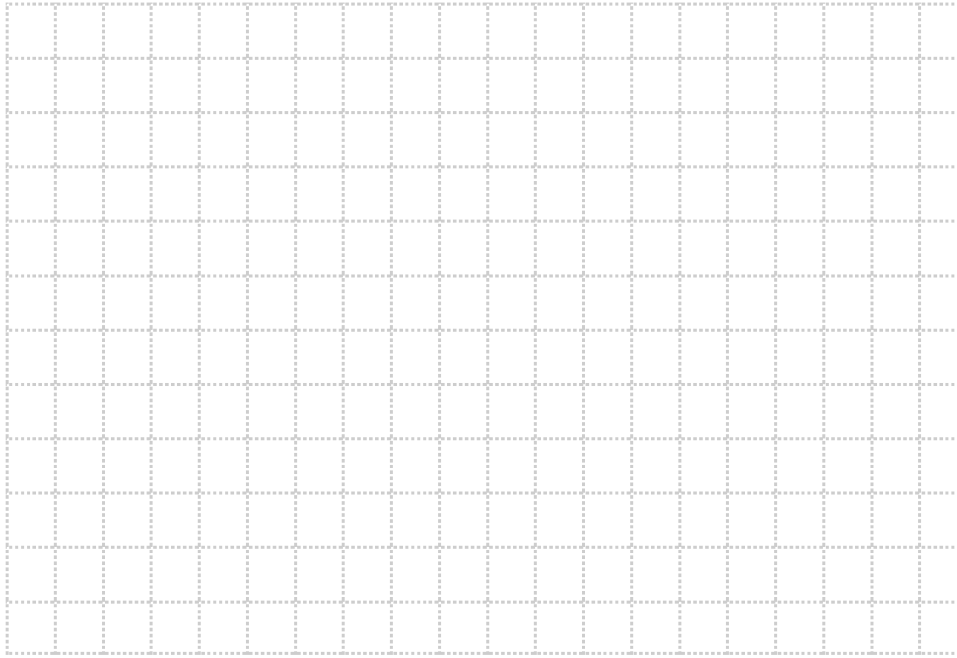

Figure 1-11. Head versus flow rate.
- 17. Plot the head versus flow rate curves in Figure 1-11.